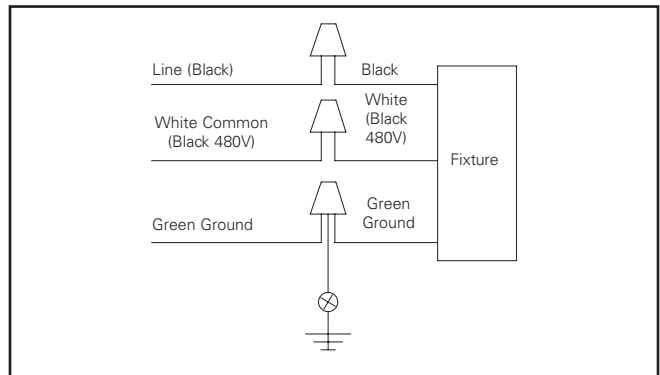

Figure 4.
4. Make wire connections inside the mounting arm. Refer to wire diagram for power connections. Connect the supply wires to appropriate luminaire leads: (Figure 4)
1. Determine wire connection method whether inside the mast arm or inside a separate junction box. Lead wires are provided exiting the mast arm for connections. Refer to wire diagram for power connections. Connect the supply wires to appropriate luminaire leads as shown in (Figure 4).
3. Secure the mast arm to the mounting arm with the (4) 3/8-16 x 3/8" set screws. Level the fixture while tightening the set screws. Torque to 168 in-lbs.